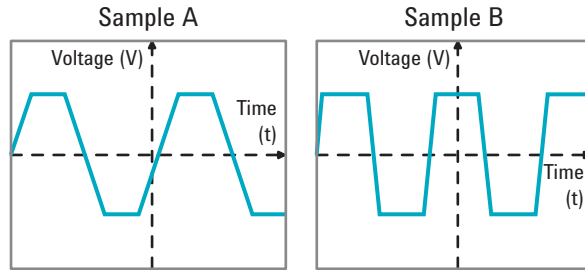

Figure 3. Different signal waveform rising edges resulting from different impedance characteristics (rough images)
- 1) Clearly identify the differences in impedance characteristics. The two ferrite beads shown in Figure 2 have different impedance characteristics and therefore their signal rising edges are also different (as shown in Figure 3). Since the signal rising edge differs depending on the impedance characteristics, choosing between different ferrite beads requires careful consideration of not only their noise bandwidth, but also their impedance characteristics.